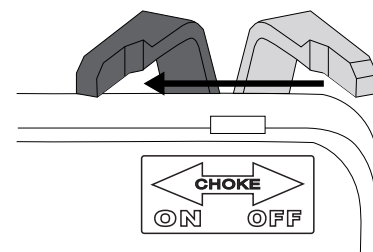

Figure 11 - Choke - ON
7. If the engine is cold, move the choke lever to the **ON** position (see Figure 11 below). If the engine is warm turn choke **OFF**.